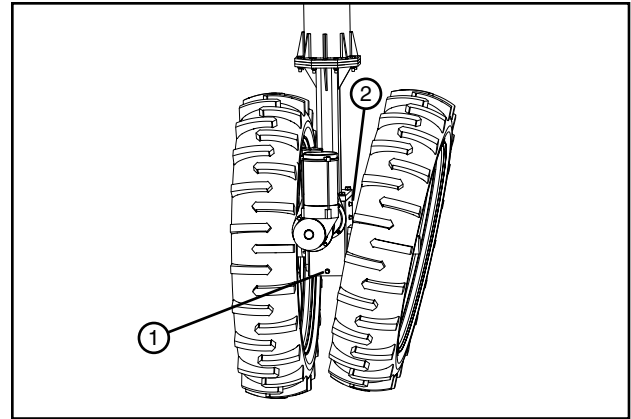

Figure 31-1 1. Drain Plug
2. Remove the drain plug from center drive gearbox. Drain oil into a container. See Figure 31-1 and 31-2.
1. Remove both the fill plug and drain plug from the steering motor gearbox, then drain the oil into a container. See Figure 31-1.